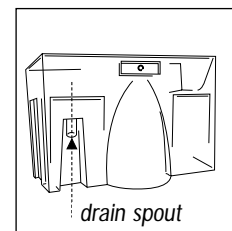

fig. 2
- After having removed the rubber bung from the spout, drill the inside of the drain spout using a fine drill bit (8 mm) (Fig. 2).